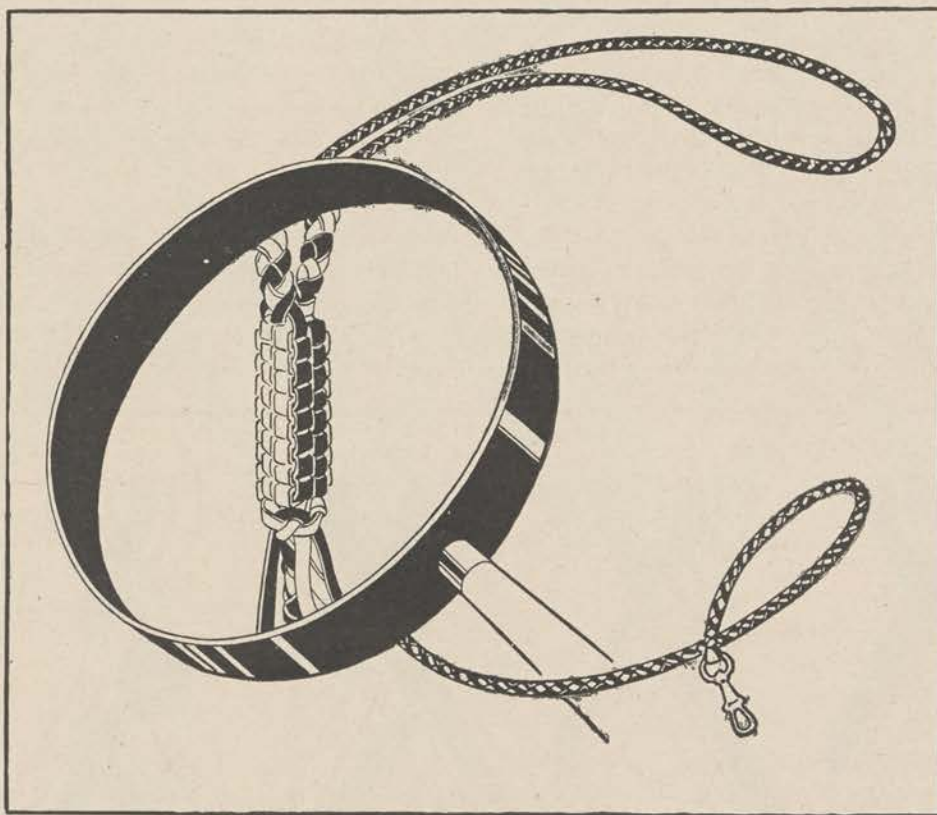

Figure 153.
c. Square braiding is frequently done on a solid core. In this way it can be used as a slip knot on a lanyard (fig. 153). The braid is formed loosely around the shank of the lanyard so that it will slide easily on the round braid.